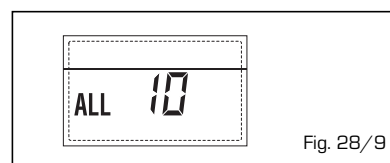

Fig. 28/9
**- INTERVENTO SONDA FUMI "ALL 13" (fig. 28/10)**